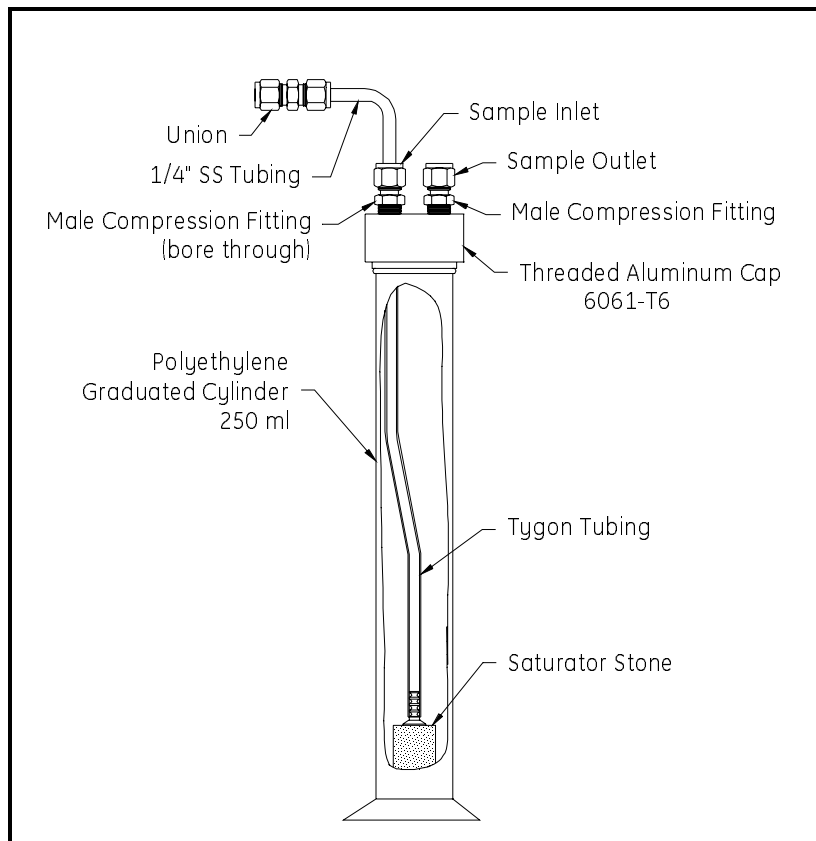

Figure 2: Polyethylene Oil Bath Filter (#750-290)
The standard *Furnace Gas Sample System* has two filters; an oil bath filter (item 2) and a 7 micron, sintered, stainless steel filter (item 3). The function of the oil bath filter is to remove all solid particles from the gas. See Figure 2 below for a detailed drawing of the polyethylene oil bath filter. The gas is drawn to the bottom of the filter column through Tygon tubing, and then bubbled through a saturator stone. The gas bubbles rise through the oil and exit out the top of the filter column. This filter is designed for low pressure (less than 25 psig) and wet dew points (greater than -40°C). The 7-micron, sintered, stainless steel filter will trap oil droplets escaping from the oil bath filter, allowing only the gas to reach the moisture sensor.
To operate the *Furnace Gas Sample System*, refer to Figures 2 and 3 on pages 4 and 5, and complete the following steps.